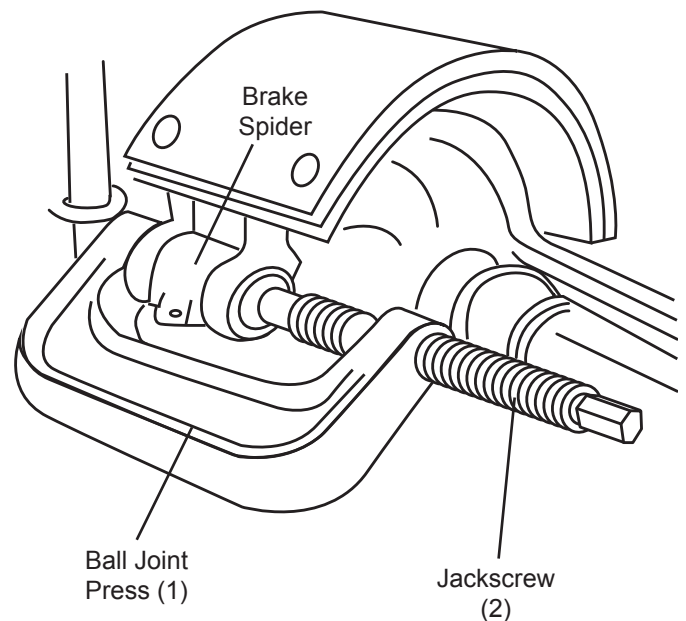

Figure 3
3. Tighten the Jackscrew until the anchor pins can be removed. See Figure 3, below.